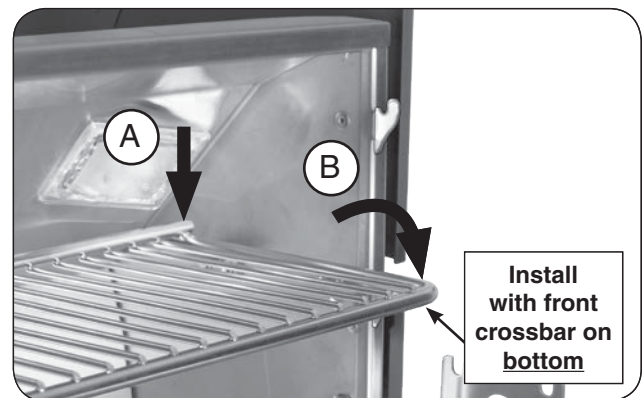

Fig. 23-3 Place warming rack for use
2. With the warming rack oriented as shown, carefully rest the rear of the rack onto the rear support plates (see Fig. 23-3, A), then lower the warming rack arms onto the lower hooks for use (see Fig. 23-3, B).